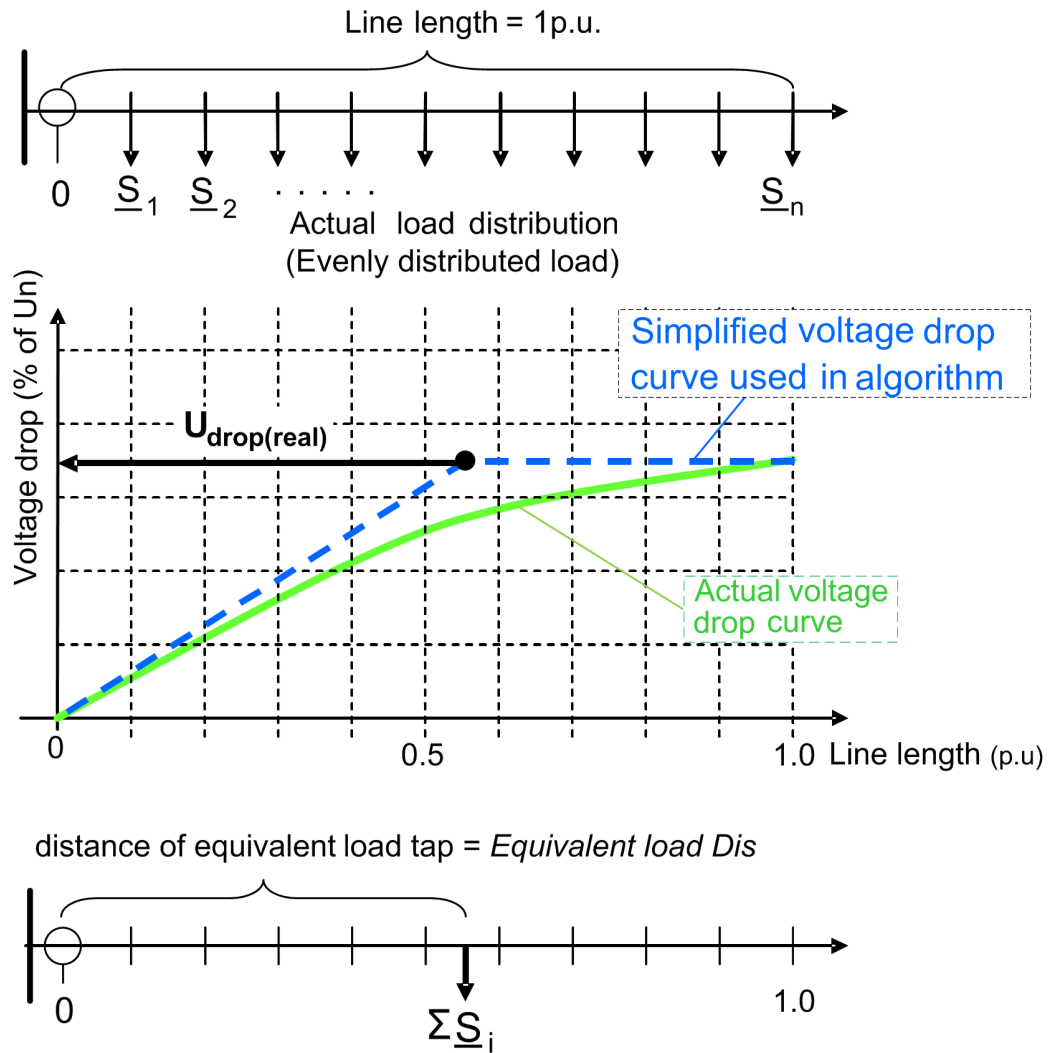

Figure 374: Description of the equivalent load distance
The “Load modelling” algorithm requires the *Equivalent load Dis* setting, that is, an equivalent load distance, as an additional parameter. The derivation and meaning of this parameter is illustrated in Figure 374, where the load is assumed to be evenly distributed along the feeder, resulting in the actual voltage drop curve as seen in the middle part of Figure 374.
- $U_{d(\text{tap},d=1)}$  The fictional voltage drop, if the entire load would be tapped at the end ( $d=1$ ) of the feeder (not drawn in *Figure 374*). The calculation of this value requires data from the DMS system.